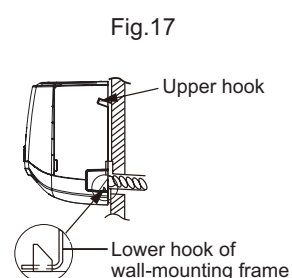

Fig.17
- (1) Put the bound pipes in the wall pipe and then make them pass through the wall hole.
- (2) Hang the indoor unit on the wall-mounting frame.
- (3) Stuff the gap between pipes and wall hole with sealing gum.
- (4) Fix the wall pipe.
- (5) Check if the indoor unit is installed firmly and closed to the wall.(As show in Fig.17)